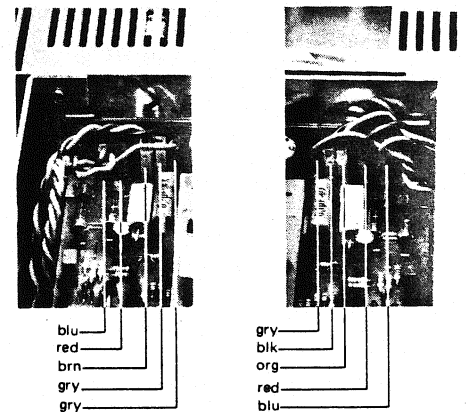

Fig. 2.6
2.7 Removing the cooling assembly including the POWER AMPLIFIER PCB 1.725.800 (see Figs. 2.6 and 2.7)
- Separate five flat-pin terminals on each side of the POWER AMPLIFIER PCB (Fig. 2.6).